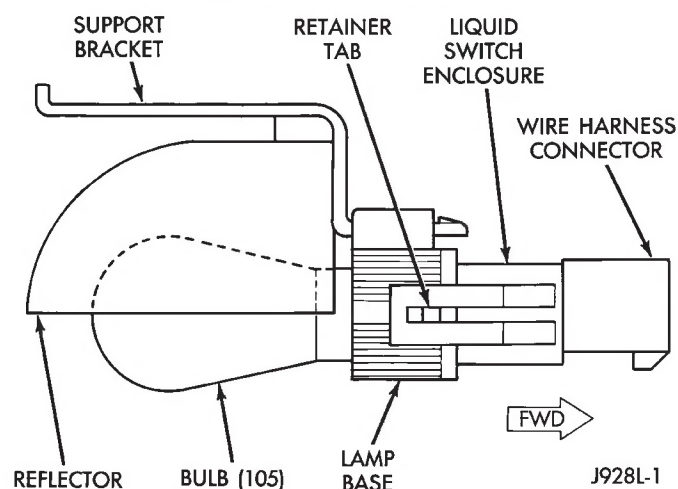

Fig. 20 Underhood Lamp Components
- (1) Disconnect the wire harness connector from the underhood lamp (Fig. 20).
- (2) Rotate the bulb counter-clockwise and remove it from the lamp base socket.